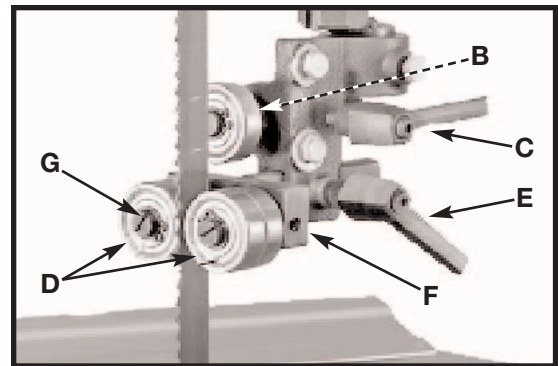

Fig. 22
Adjust the blade support bearing (B) Fig. 22 so that it almost touches the back of the saw blade when the blade is tracking properly. To adjust, loosen the indexable locking lever (C) and slide the bracket in or out until the adjustment is correct. Tighten the lever (C). Adjust the blade guide bearings (D) so that they almost touch the sides of the blade by loosening the screw (F) and rotating the bearing on the shaft (G). Tighten the screw (F). Position the front edge of the guide bearings just behind the “gullets” of the saw teeth.